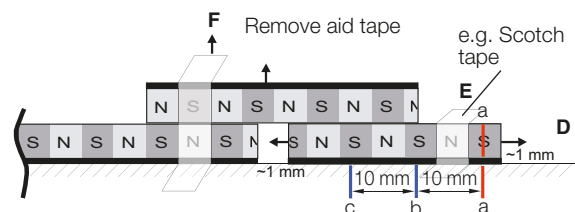

Fig. 4-10: Make three markings a, b, and c
5. Slide the second tape M2 under the aid tape in both directions until you find the area with the maximum attraction. Fasten tape M2 in this stable position using Scotch tape. Remove the aid tape (Fig. 4-10).
6. Mark tape M2 and the machine part at any position (a) (Fig. 4-10).